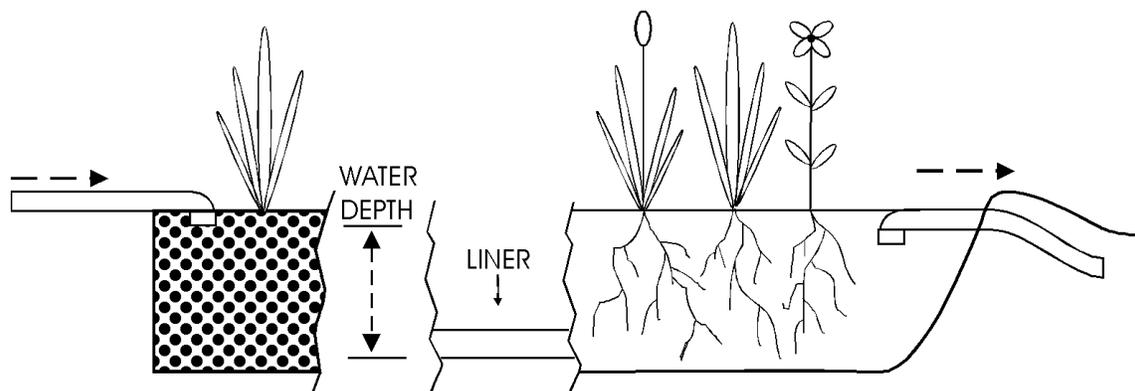

Figure 3. Constructed wetland
C. Constructed Wetlands — consist of a shallow trench (6 to 12 feet wide by 30 to 80 feet long) that has 12 to 14 inches of washed gravel or crushed rock containing aquatic plants (Figure 3). Wastewater flows through voids in the rock with the water surface 1 to 2 inches below the rock surface (subsurface flow). As wastewater flows through this component, suspended solids and some elements settle to the bottom, other nutrient elements are absorbed by the plants, and much of the nitrogen is converted to nitrate and then converted to nitrogen gas. Microbes in the water use oxygen from the air or plant roots to convert the nitrogen, destroy the pathogens, and decompose organic pollutants to carbon dioxide gas which is released to the atmosphere. This component is used when soil depth or soil water movement is a restricting factor with a more conventional system, and where additional treatment beyond the septic tank is needed to reduce pollutants going to the drainfield. When site features prevent gravity flow from the septic tank, a pump chamber must be added to deliver wastewater to this component.